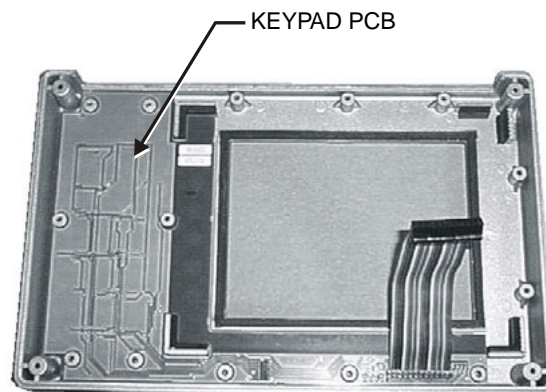

Figure 4-5. Front Panel Keypad PCB Location
6. Remove the rubber cushion pad from the keypad PCB and remove the PCB (Figure 4-5).